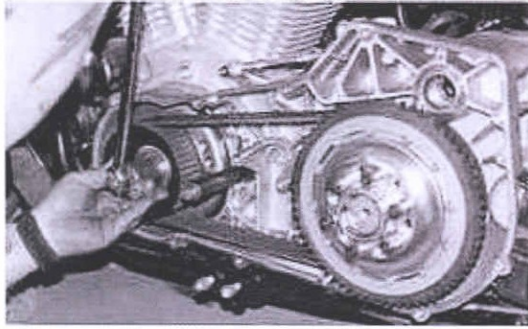

Fig. 8
7. Rotate the motor by hand using a socket wrench, the belt should track straight and away from motor but not off of the front pulley. Be sure to red loctite front engine nut and torque to HD specifications. (Electric impact is preferred). (Fig. 8)